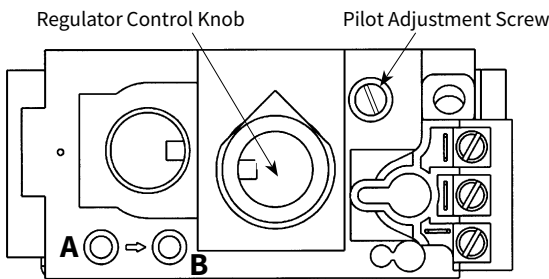

Figure 6.2. Pressure test points, regulator control and pilot adjustment.
**Pressure Test:** Attach a manometer to the appropriate test point on the valve. See fig. 6.2. The gauge connections are located on the front of the valve. Connections are identified by: